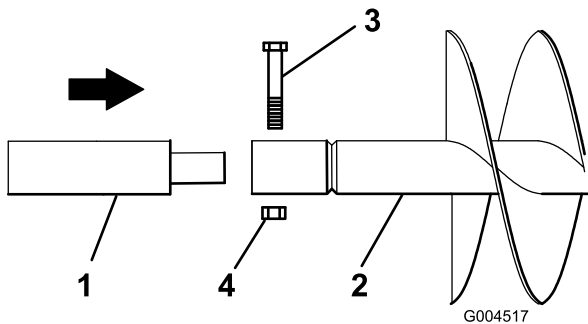

Figure 3
4. If using an extension with the auger, insert the end of the extension into the end of the auger and secure the auger to the extension with a bolt (7/8 x 4-1/2 inch) and nut (7/8 inch) (Figure 3).